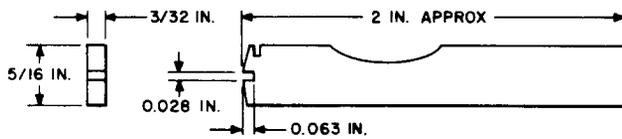

Fig. 9—AECO H-47202 Adjuster Tool
2.09 AECO H-47202: The AECO H-47202 tool (Fig. 9) is a cam adjuster used on 197-type switches.